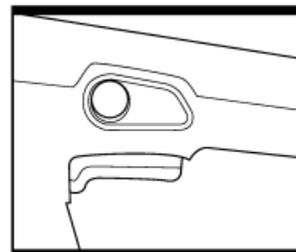

Fig. 2
2. SWITCHING ON AND OFF (Fig. 2)